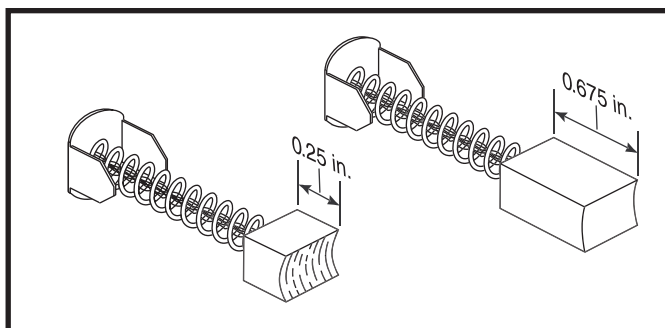

Figure 34. Motor Brushes
- *If the brushes are worn below 0.25 in. or they are physically damaged, then replace the brushes and retest the system. See figure 34.*
- *If the brushes are not worn below 0.25 in. or they are not damaged, then replace the right motor (9) and retest the system.*